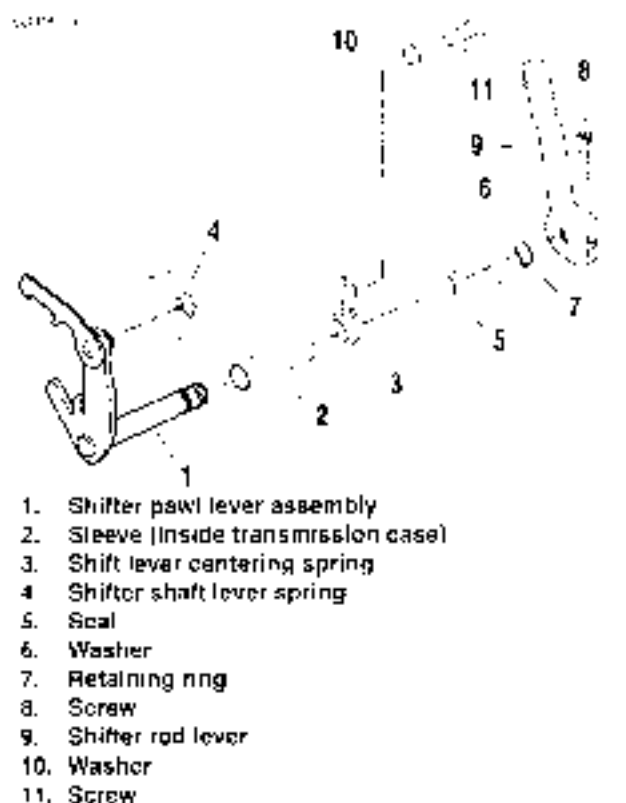

Figure 7-38. Shifter Arm Assembly
1. See Figure 7-38. After removing floor assembly, remove screw (8) and shifter rod lever (9) from the shifter pawl lever assembly (1).
2. Remove retaining ring (7), washer (6) and seal (5). Discard retaining ring and seal. Pull shifter pawl lever assembly out of the transmission case.
3. Inspect sleeve (2) inside transmission case.